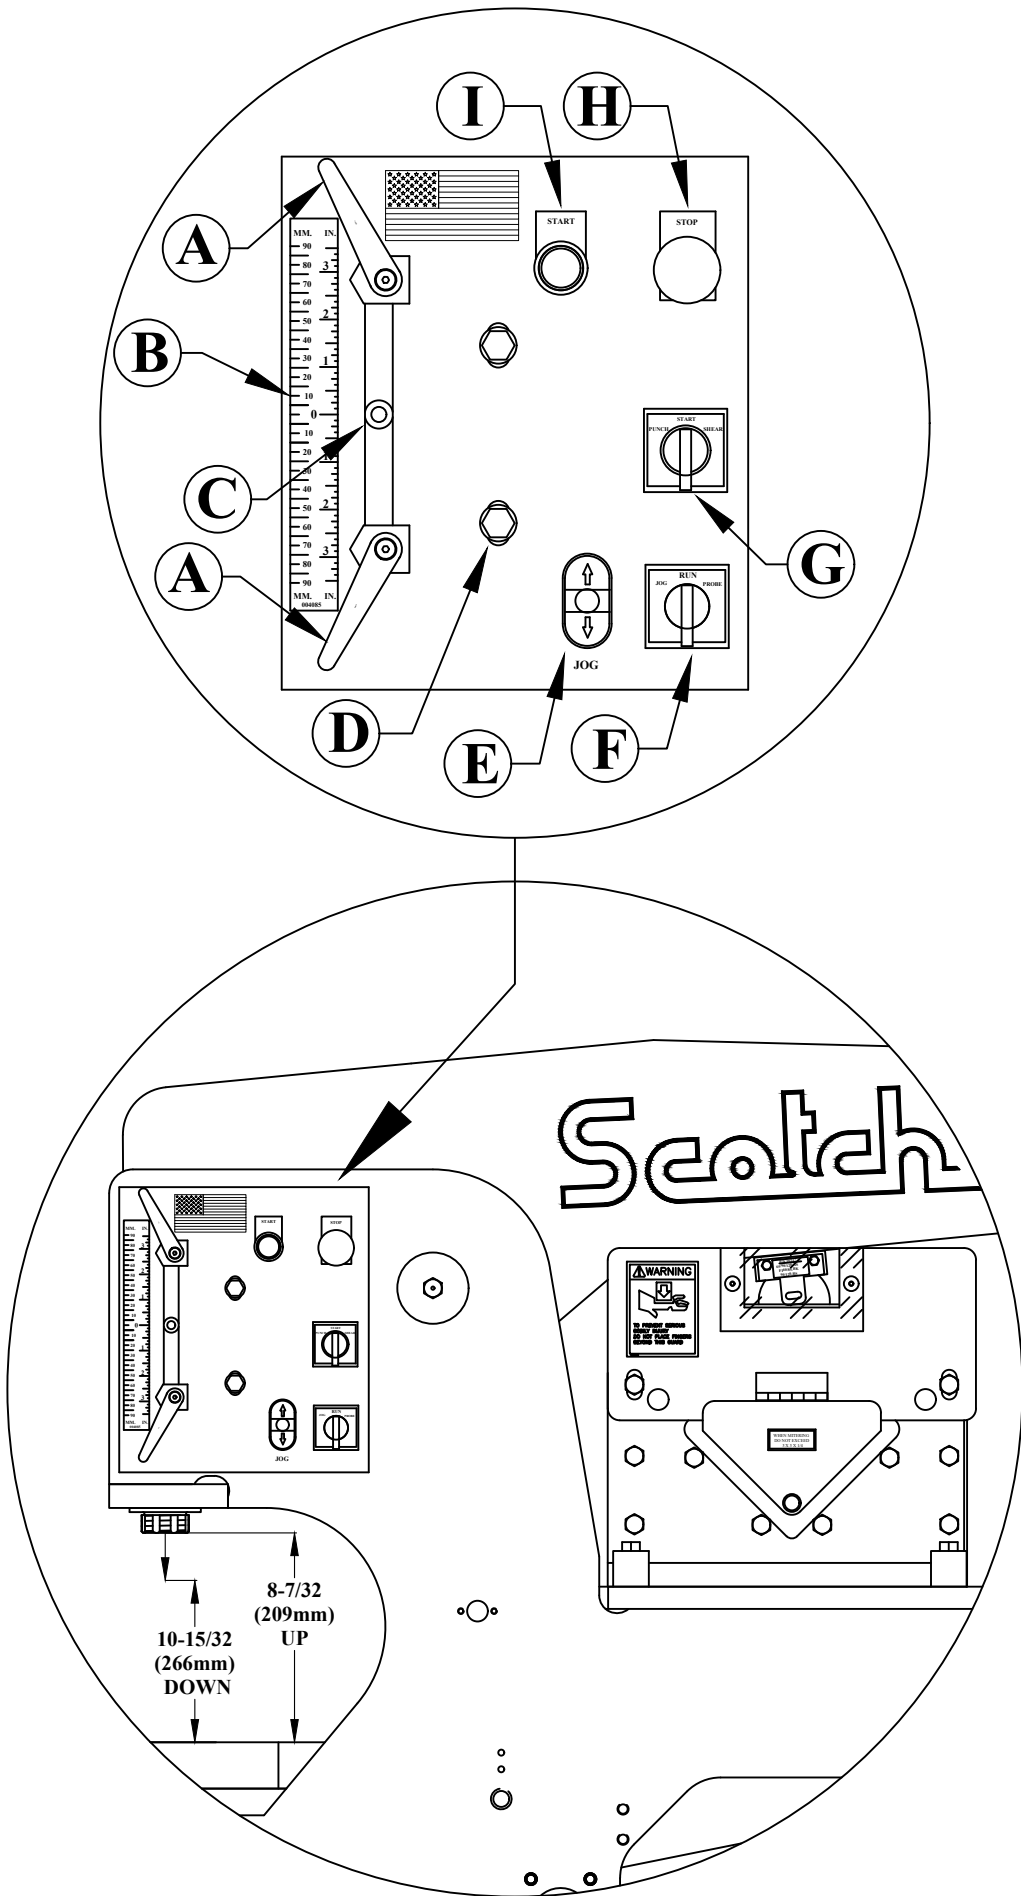

FIGURE 5
A check of the machine's stroke setting is made at the punch station; SEE FIGURE 5 ON THE FOLLOWING PAGE. Set the stroke control handles (A) out to their farthest position. Turn the selector switch (G) to the START position and power the machine. Then place this switch in the SHEAR position. Measure the distance from the top of the punch bolster to the bottom of the punch ram. The distance should be 10-15/32 inches (266mm). Turn the selector switch to the PUNCH position and measure the distance. The distance should be 8-7/32 inches (209mm). These dimensions are + or - 1/16 of an inch (3mm).
- 1. Loosen the two mounting plate screws (D) that hold the mounting plate to the machine. SEE FIGURE 5 ON THE FOLLOWING PAGE.**